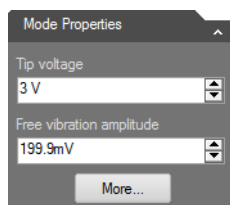

Figure 8-11: Adjusting Tip Voltage
- ❶ Approach the sample in Dynamic Force mode with a suitable cantilever.
- ❷ In the Mode Properties section of the Imaging window, set “Tip Voltage” to +3 V (see *Figure 8-11: Adjusting Tip Voltage*).
- ❸ Adjust the phase on the Lock-in amplifier until the X-channel signal is maximally positive and the Y-channel signal is close to zero.
- ❹ Return the “Tip Voltage” setting to 0 V.